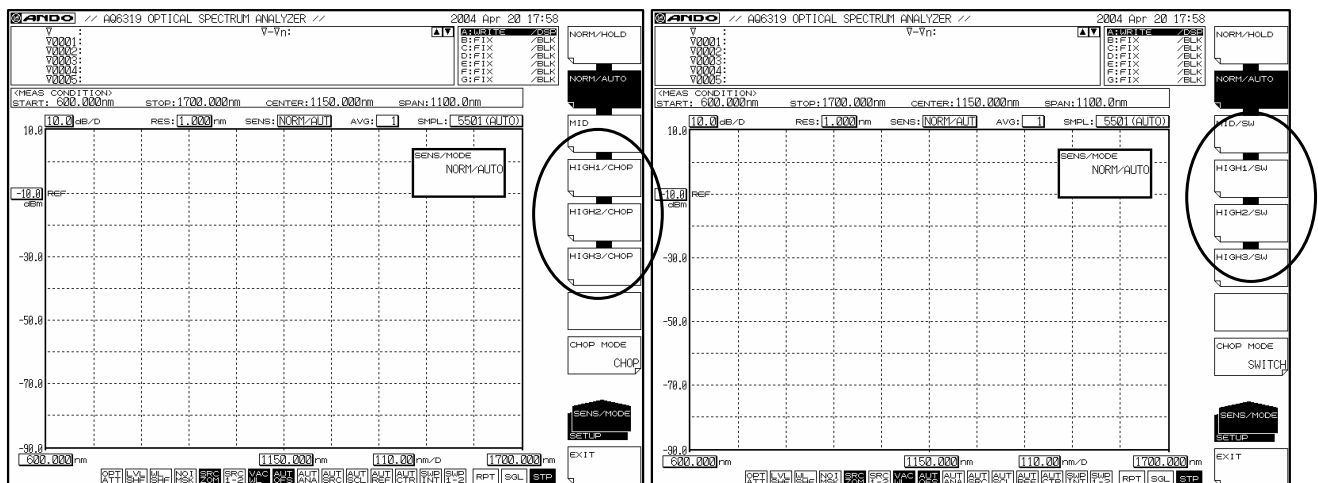

Fig. 5-13 Display Screen During Sensitivity Setting
- When the <CHOP MODE> key is set to <CHOP> or <SWITCH>, the measurement sensitivity names of the <HIGH1> through <HIGH3> keys change. (See Fig. 5-13 Display Screen During Sensitivity Setting)